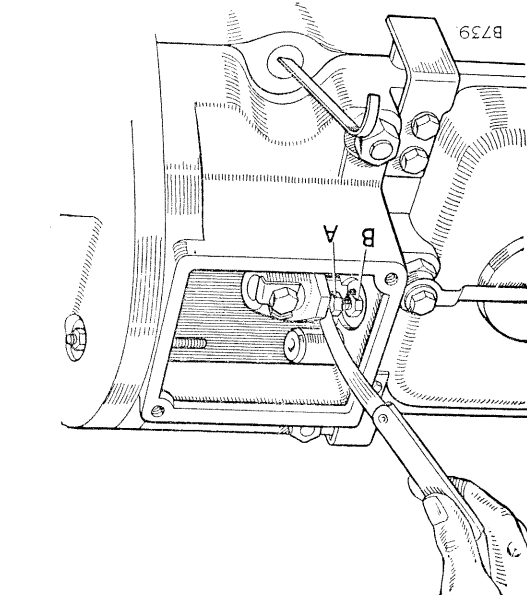

Fig. C-15—Adjusting 2nd speed gear bolt
39. Fit the set bolt and locknut (acting as a 2nd speed stop) in the top cover. Select 2nd gear and adjust the stop bolt so that there is .002 in. (.05 mm) clearance between the bolt head and the stop on the selector shaft; tighten the lock-nut (Fig. C-15). The reverse stop bolt cannot be adjusted until the transfer box has been fitted. Operation C/20.